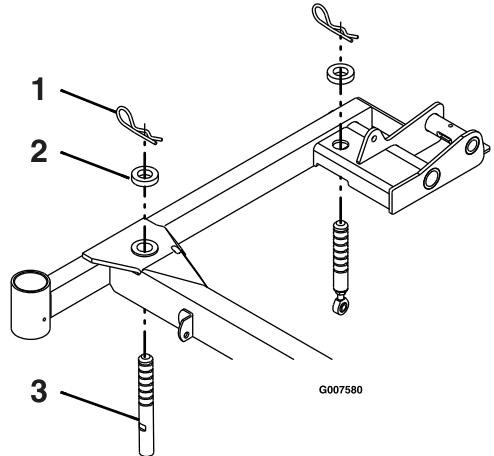

Figure 63
3. Verify all hairpin cotter pins are in the 7.62 cm (3 inch) mower deck height holes with the spacers under the hairpin cotter pins (Figure 63).
4. Shorten or lengthen each mower deck support pin to obtain blade tip height of 7.62 cm (3 inches) at the front of the deck and 8.26 cm (3 1/4 inches) at the rear of the deck (Figure 63).